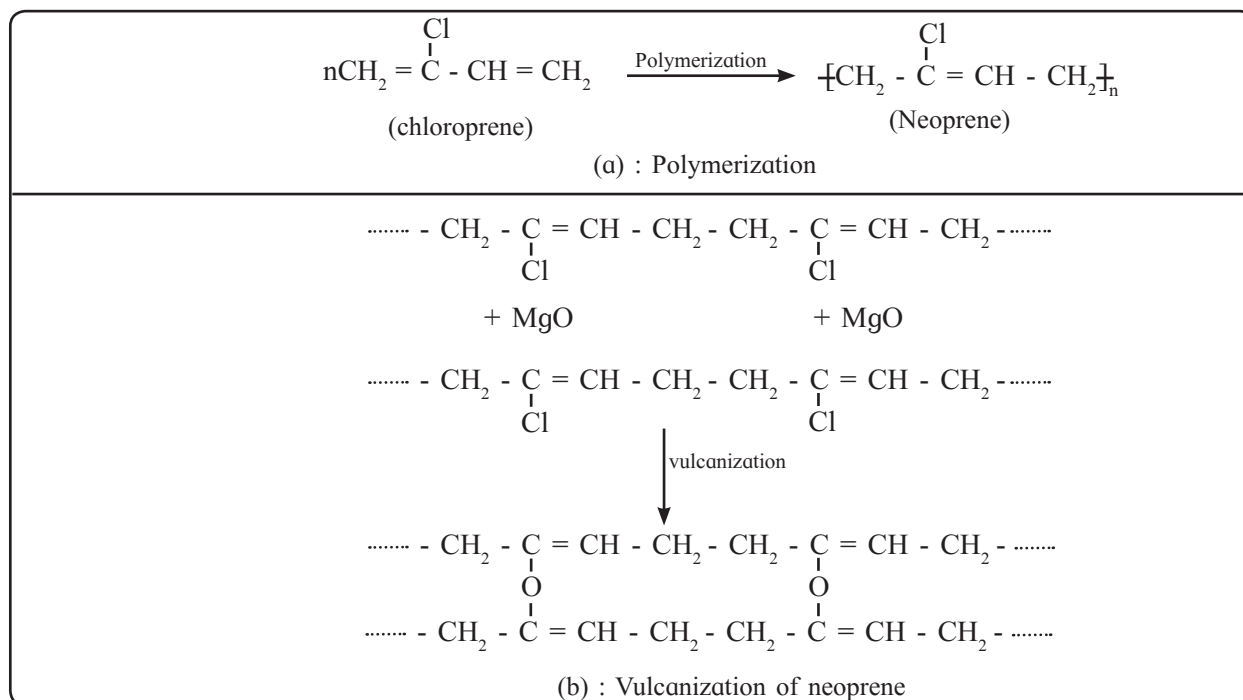

Fig. 15.6 Neoprene and vulcanization
15.3.9 Neoprene : Neoprene, a synthetic rubber, is a condensation polymer of chloroprene (2-chloro-1,3-butadiene). Chloroprene polymerizes rapidly in presence of oxygen. Vulcanization of neoprene takes place in presence of magnesium oxide. The reactions involved can be represented in Fig. 15.6.